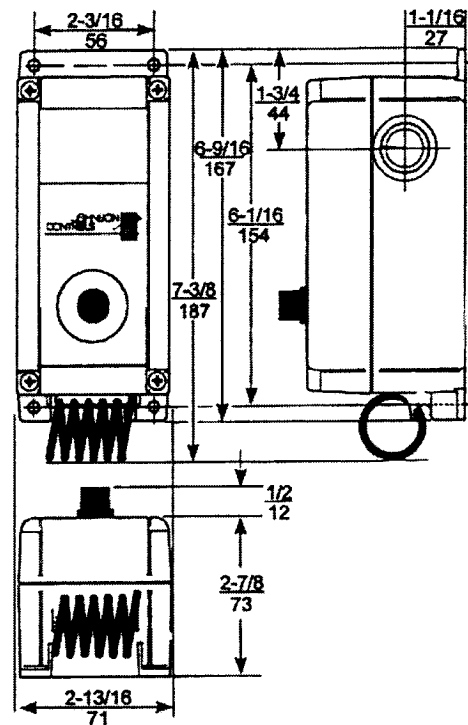

Figure 1: Dimensions for T19PC Temperature Controls with NEMA 4X Enclosures, in./mm
The T19PC type electromechanical temperature controls are designed for use in many agricultural applications. The T19PC controls have rugged Noryl[®] plastic enclosures and are (UL) Listed as NEMA Type 4X and for use in National Electrical Code (NEC) Article 547 Agricultural Environments (ANSI/NFPA 70). See Figure 1 and *Technical Specifications*.
Mount the temperature control to a flat surface with screws through the holes in the mounting ears on the back of the case. See Figure 1.